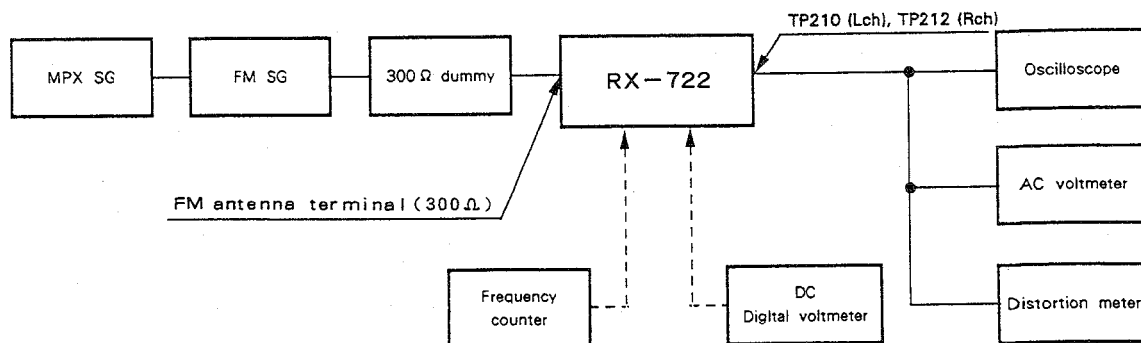

Fig. 7-5 FM adjustment wiring diagram
- Make the wire connections as shown in Fig. 7-5